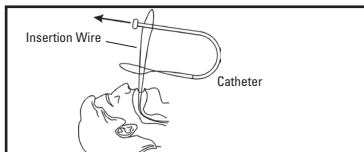

Figure 4
- Pass the Button end of the One Step catheter through the insertion wire loop and pull the entire catheter through (Figure 4).